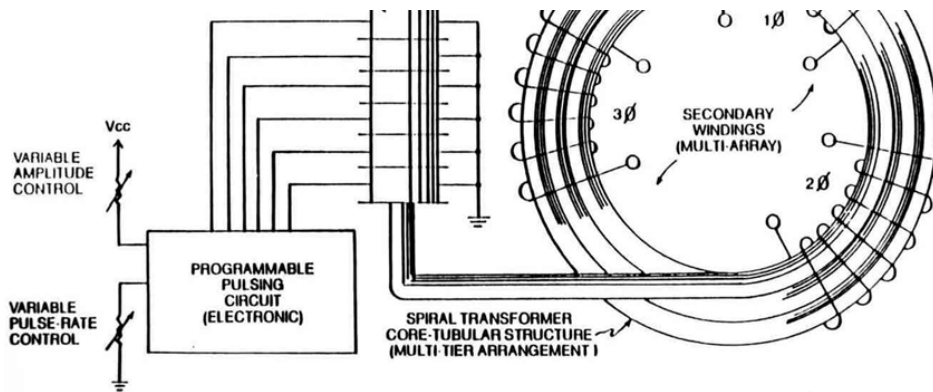

FIG. 33: ULTRA HIGH UNIPOLAR PULSE VOLTAGE FREQUENCY GENERATOR (NON-MECHANICAL)
output further, simply **spiral-wrap** (1a xxx 1n) **non-magnetic tube** (1) through said **pickup coils-array** (2a xxx 2n), as illustrated in Figure 33.